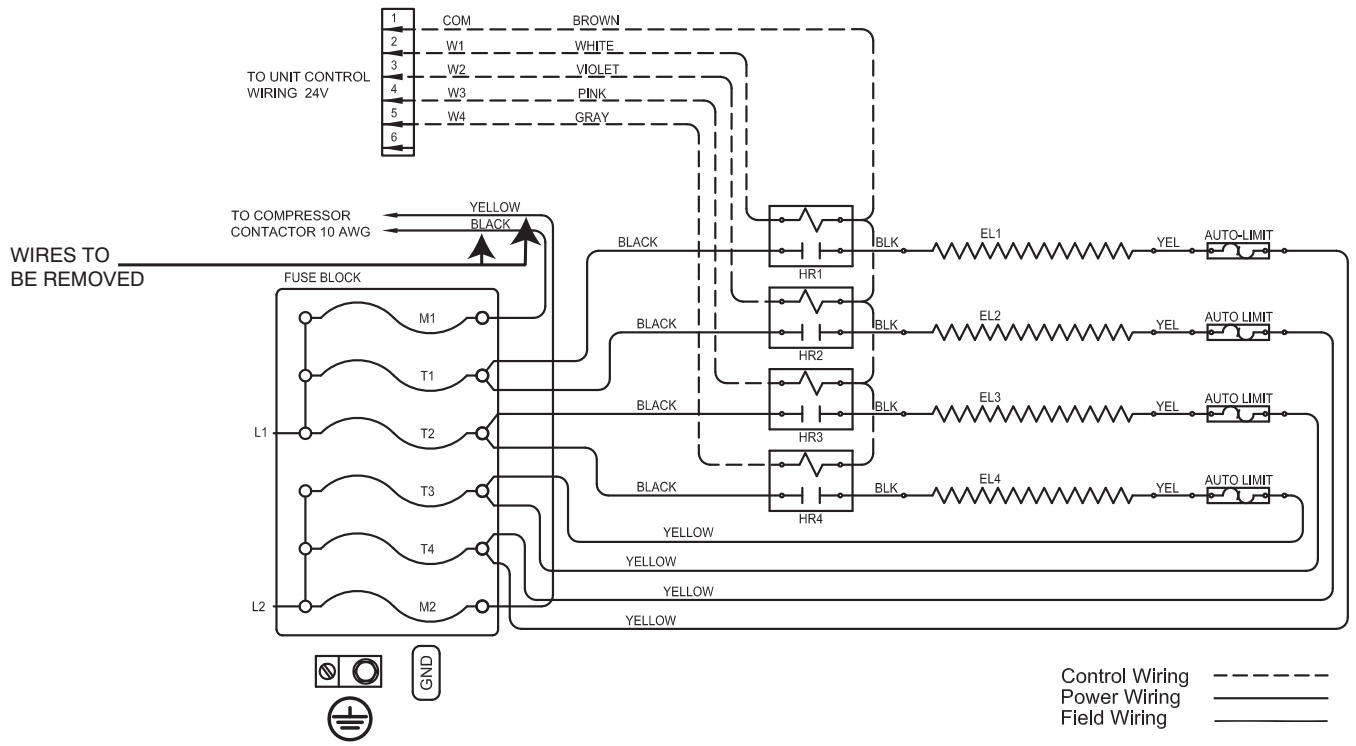
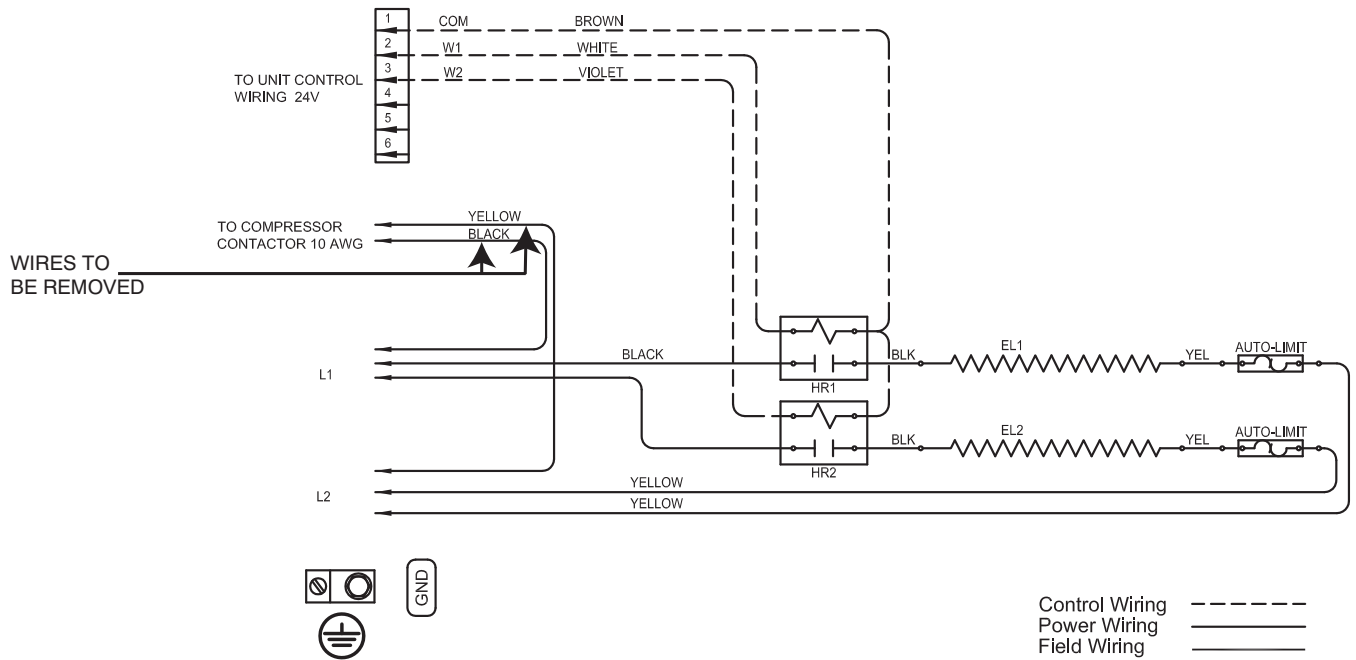

Fig. 4 - Wiring Diagram Example for Fused Heater
Fig. 5 - Wiring Diagram Example for Non-Fused Heater
5. Remove power line connection from heater to unit contactor and compressor (see Fig. 4 and Fig. 5). These are the stripped end wires black and yellow, with opened ends.